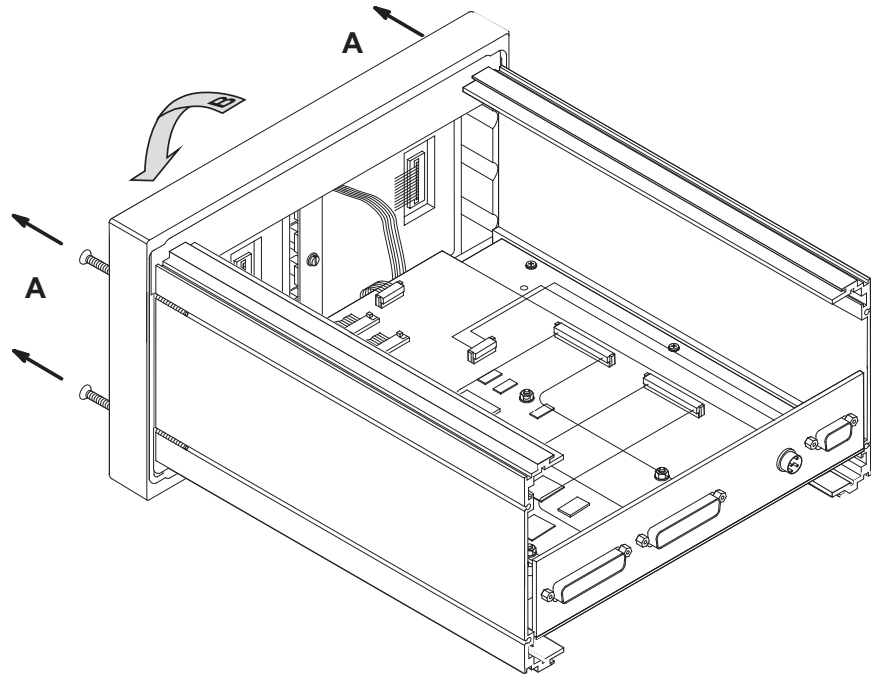

Fig. 8-26: Removing and upending the front panel
7. Remove with a suitable screw driver the Philips screws from the front side of the unit (fig. 8-26, A).
8. Upend the front panel on the work bench (fig. 8-26, B). Asure not to scratch or damage the displays. **Note: Do NOT drag the key pad cable splice and do NOT damage it!**